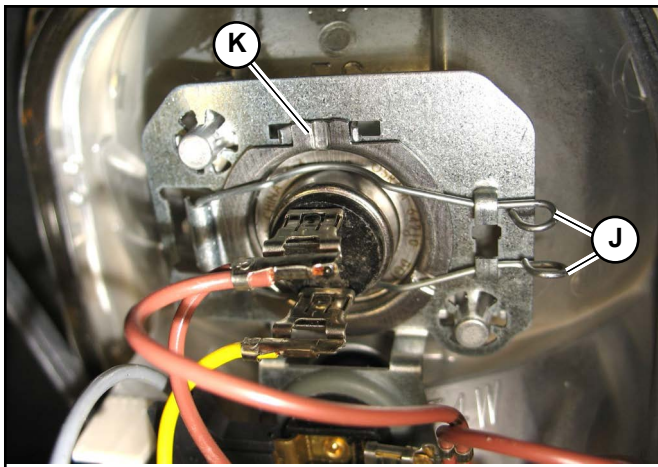

Fig. 242 – High Beam Bulb Mounting
1. Release bulb retaining clips (J, Fig. 242) and remove the high beam bulb.
3. Plug wires (O) into new bulb (L). Replacement bulb is H7 55W 12V halogen.
**NOTE:** Plug the two-wire connection onto the terminal closest to tab (K).
4. Secure the new bulb (L) into the headlight housing with retaining clips (J, Fig. 242).
**NOTE:** Orient bulb (L) with tab (K, Fig. 242) at the top.